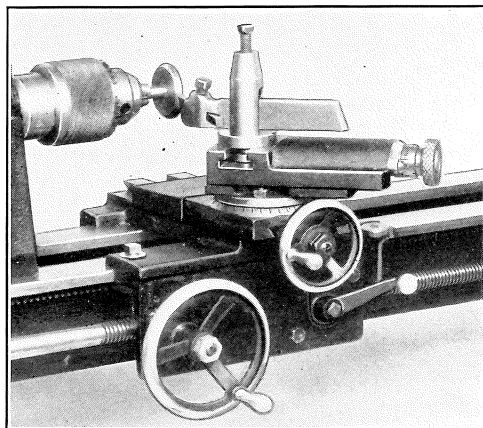

Fig. 19
**UNIVERSAL CHUCK.** (See Figs. 19 and 25.) This Chuck was developed especially for use on this lathe. It is threaded to fit the spindle and capably replaces expensive draw-in collets. With it small diameters from  $\frac{1}{8}$ " to  $\frac{5}{8}$ " can be mounted in the lathe and turned, etc.
**COMPOUND REST.** (See Figs. 19 and 27.) With a compound rest the cutting tool may be fed to the work at any angle. This makes possible the cutting of tapers beyond the range of the regular taper attachment. This type rest is also of valued assistance in thread cutting. For cutting U.S.S. thread, for example, set the rest at 29 degrees. Grind and set the tool in the usual manner and run it up to the work with the cross slide screw. Mark a line across the dial on screw with chalk and return feed screw to this line after each cut. Do feeding in with the compound rest. In this method the cutting tool cuts on only one side and produces a cleaner thread. There is also less chance of chipping off end of cutting tool.